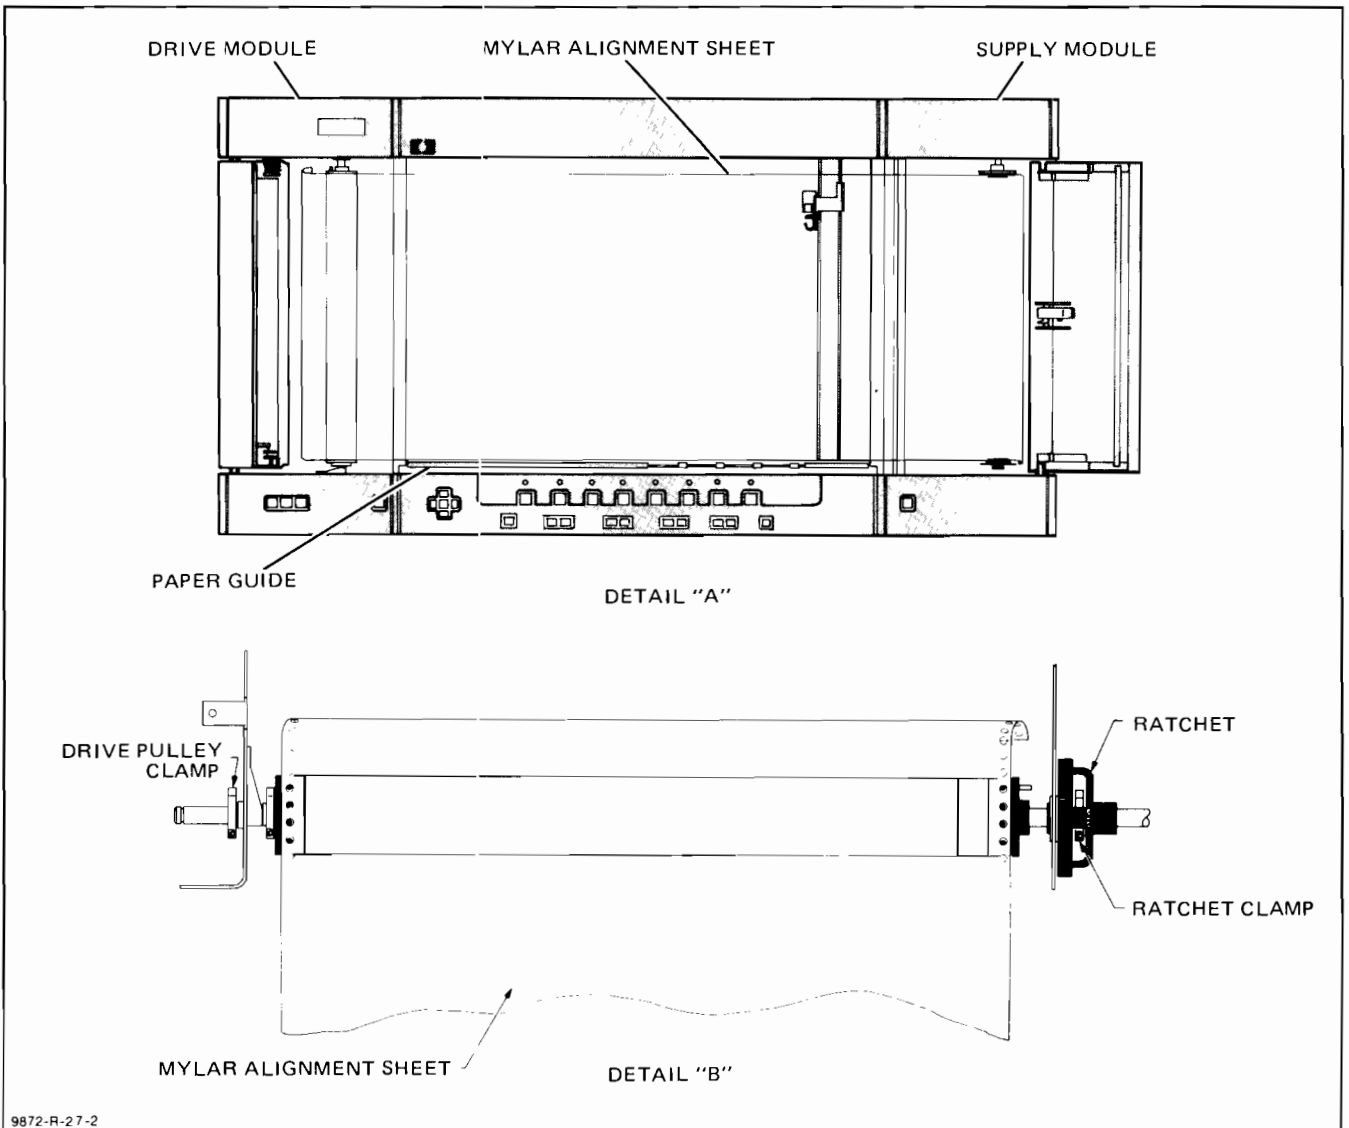

Figure A3-5. Drum Axial Adjustment
- a. Set the plotter LINE switch to the OFF (O) position, and remove the line cord.
- d. Loosen the drive pulley clamp screw on the front of the drum shaft and the ratchet clamp screw on the transmission assembly. See Figure A3-5.